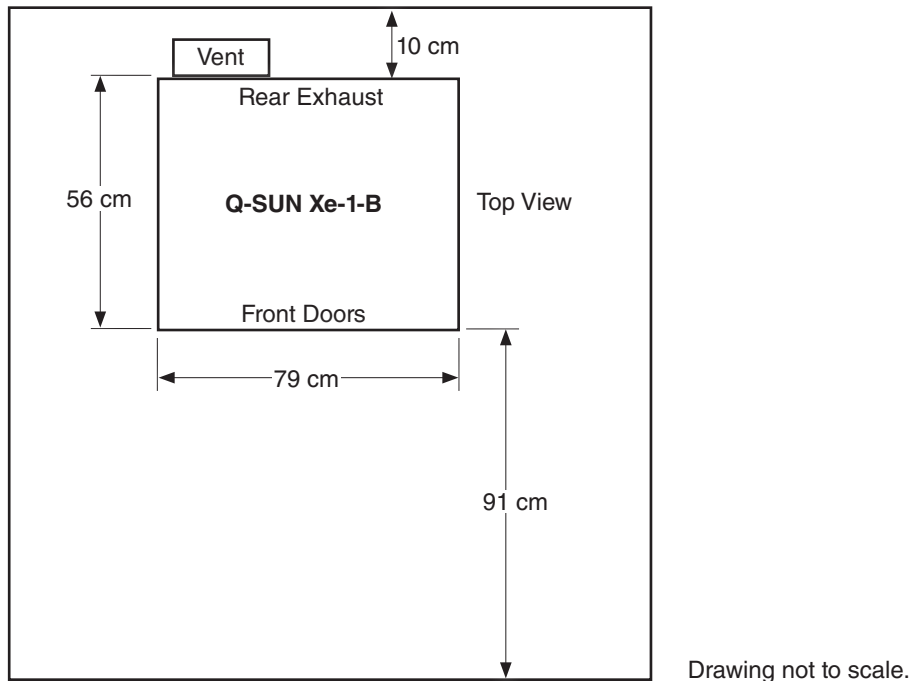

Figure 6.1a: Q-SUN Xe-1-B minimum clearance and counter space requirement.
- Figure 6.1a shows external dimensions and space requirements.